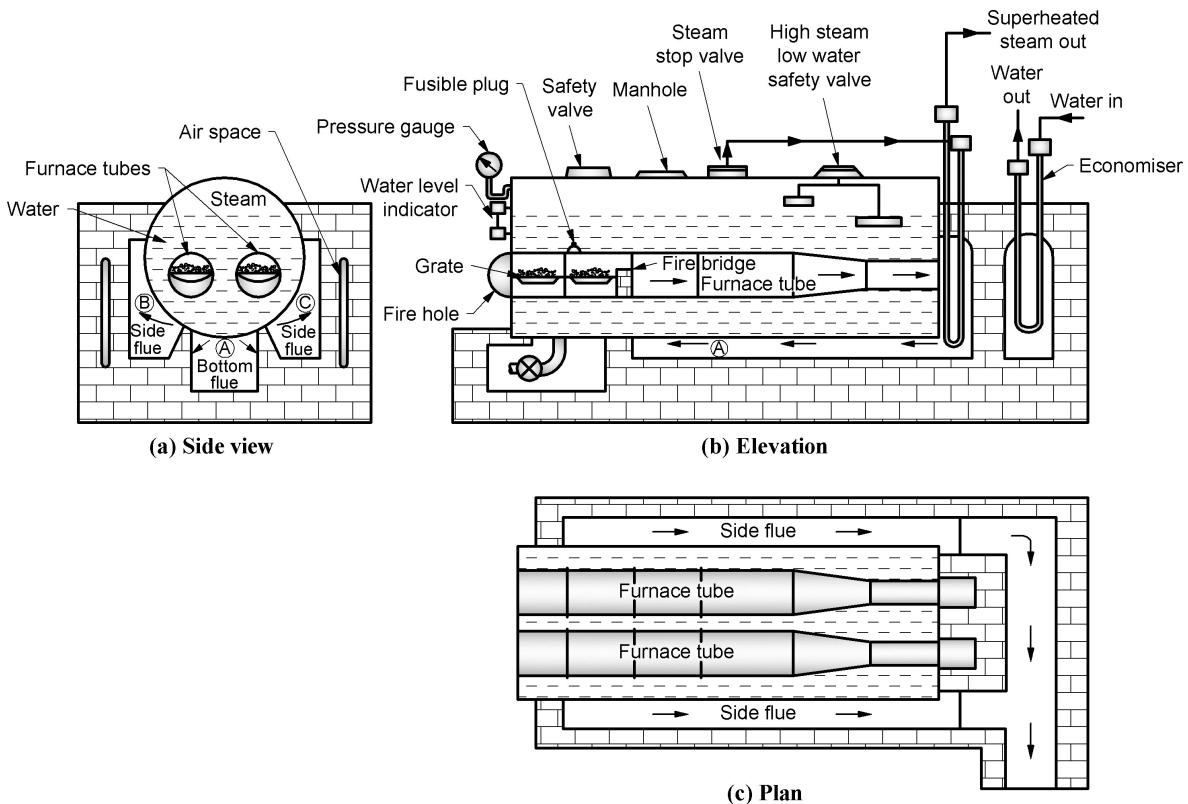

Fig. 1.4 Lancashire boiler
- (1) The boiler consists of cylindrical shell placed over the brick structure. The shell is 2 to 3 m in diameter and 7 to 9 m in length. It has two internal flue tubes having diameter between 80 to 100 cm.
- (2) The brick work forms one bottom flue and two side flues. Both the flue tubes which carry the hot gases lay below the water level as shown in Fig.1.4(a). Grate is provided at the front of the flue tube and coal is fed to the grate through the fire doors.
- (3) A fire brick bridge is provided at the end of the grate to prevent the flow of coal and ash particles into interior of the furnace tubes. By deflecting the hot flue gases upwards, fire bridge helps in providing better heat transfer. Air space is provided in the brickwork setting to prevent cracks in the brickwork due to expansion of the walls because of heat.
- (4) The diameter of flue tubes is larger at the front to accommodate grate and tapered at the end. The smaller diameter at the end increases the velocity of gases coming out of the flue pipes. Super heater is placed at the end of the main flue tube. The hot gases before entering the bottom flue are passed over the super heater tubes as shown in Fig.1.4(b).
- (5) The economiser is placed at the end of side flues before exhausting the hot gases to chimney. The feed water is heated by absorbing the heat from the exhaust gases, thus leading to better boiler efficiency. Dampers in the form of doors are placed at the end of side flues to control the flow of gases.
- (6) This regulates the combustion rate as well as steam generation rate. These dampers are operated by chains passing over a pulley at the front of the boiler.
- (7) The boiler is fitted with usual mounting and accessories. The top view of the boiler shell has anti-priming pipe, safety valve, low water and high steam alarm and man hole.
- (8) Pressure gauge and water level indicator are provided in front of the boiler and blow off cock at the bottom of the shell. Fusible plug is mounted on top of each main flue tube just above the grate.
- (1) Fuel is burnt on the fire grate and hot flue gases pass through the two internal fire tubes and reaches the back end of the boiler where they dip and enter into the bottom flue passage (Fig.1.4 a) 'A'.
- (3) Then they move along the two side flues and then are discharged through the chimney (Fig.1.4.c).
- (4) As the heat is transferred by two internal flue tubes, bottom flue and side flue, heat of flue gases is utilized effectively.